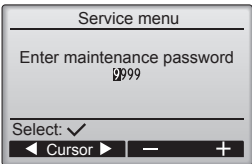

Fig. 6-3
- ① Select "Service" from the Main menu, and press the button.
② When the Service menu is selected, a window will appear asking for the password. (Fig. 6-3)